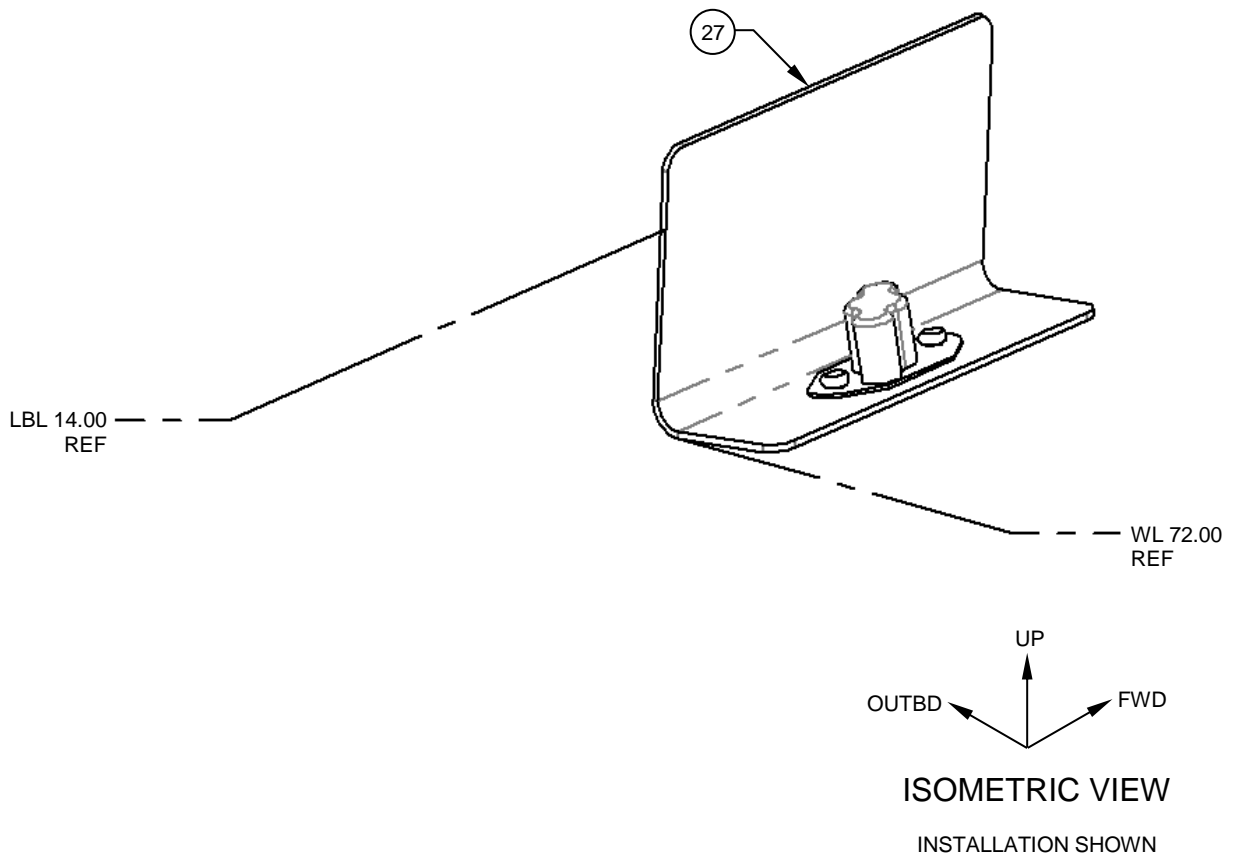

Figure 4
8. Remove the existing spare bulb holder clip (205-030-617-037) and replace with the Clip, Assy (Item 27). Back-drill the Clip, Assy (Item 27) from the existing holes making sure that the clip is positioned to keep the spare bulbs from contacting the Coax Cable, Assy (Item 13). Rivet in place with MS20470AD(X)-(X) rivets. Reference Figure 4.